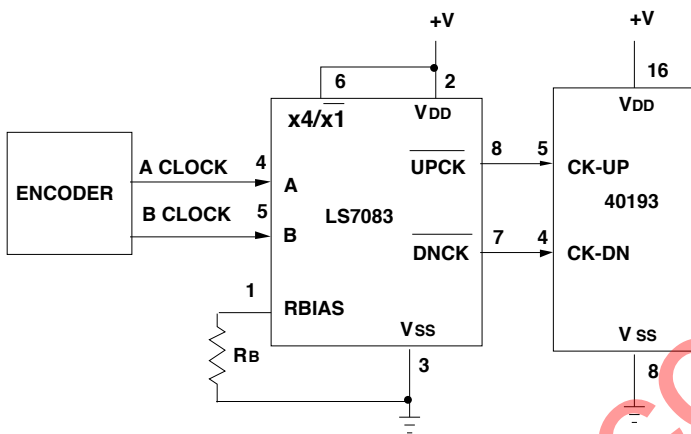

FIGURE 6A. TYPICAL APPLICATION FOR LS7083 IN x4 MODE
- Interface incremental encoders to Up / Down Counters (See Figure 6A and Figure 6B)